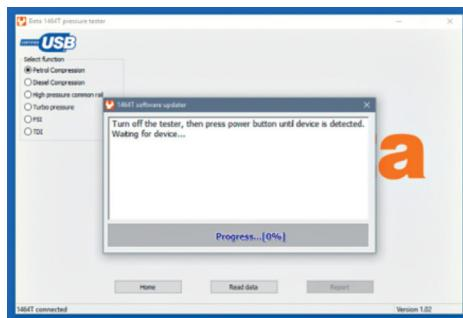
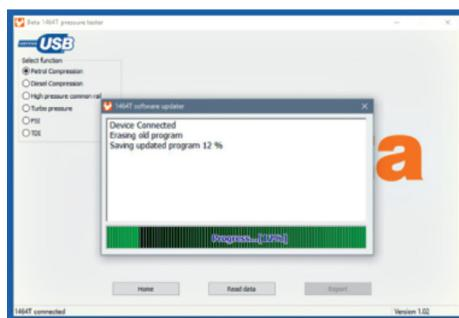

Fig.5
Fig.6
- Next message (see fig.5) will tell you to turn off the tester and then press the power button continuously until the PC detects the tester. **In this step is very important that you keep the power button pressed (about 6 seconds) until the PC detects the tester in update mode (see fig.6).**
- When the tester is detected the update process will begin (see fig.6).